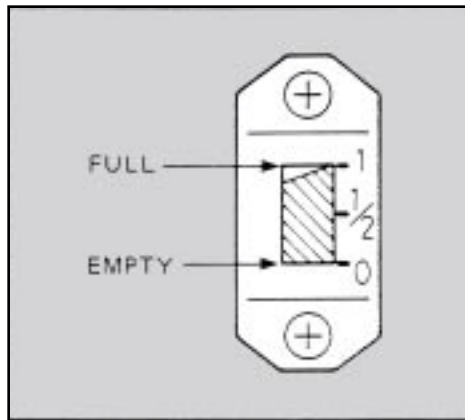

Figure 14: Fuel Gauge Indications
- (1) Check fuel level at fuel level gauge (refer to Figure 14).
- (2) If fuel level is low, refill with unleaded automotive gasoline.
- (3) Fuel tank capacity